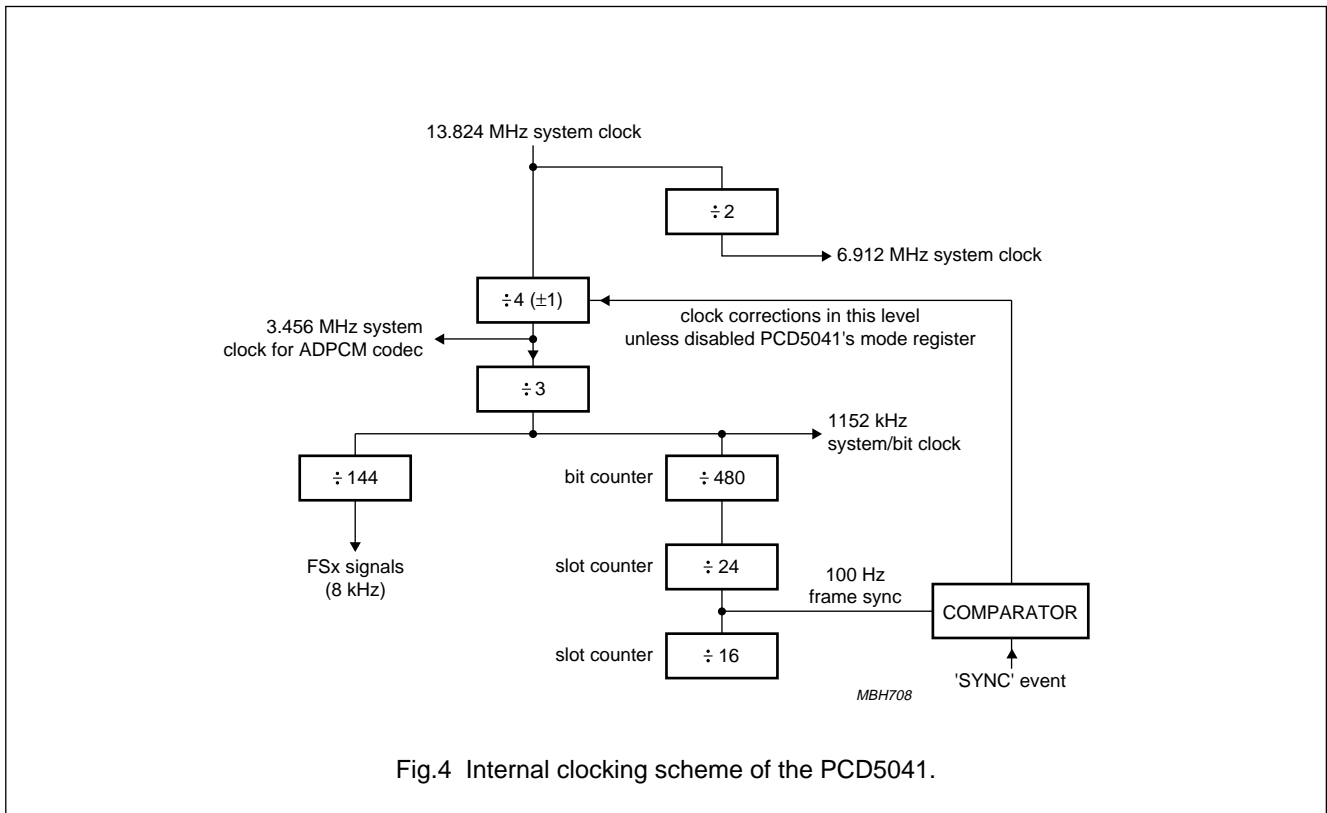

Fig.4 Internal clocking scheme of the PCD5041.
6.2 Clock generation and correction (see Fig.4)